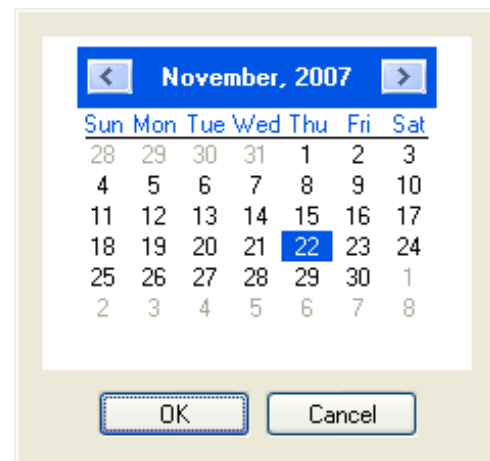

Figure 23
2. Enter the holiday name, month and day. Clicking the down arrow will display a calendar (Fig 23).